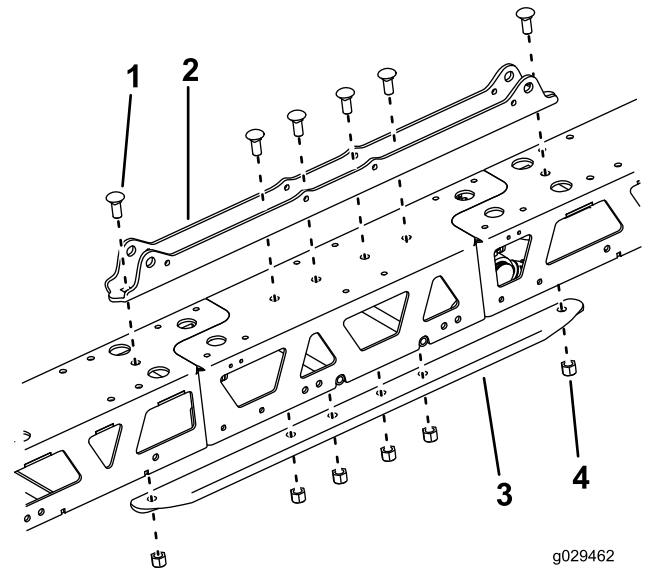

Figure 11
3. Install the mount plate and channel stiffener using 4 carriage bolts, 4 locknuts, 2 previously removed carriage bolts, and 2 previously removed locknuts (Figure 11).